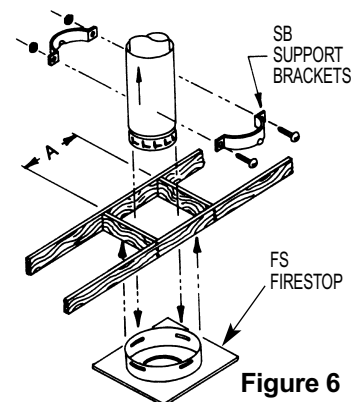

Figure 6
2. Frame in an opening providing one-inch clearance to AmeriVent Type B Gas Vent. See **Figure 6** and **Table 1**.
- If used as a support, install Support Bracket (SB) as shown in **Figure 6**. Clamp bracket securely to pipe section, using the pair of bolts and nuts provided.